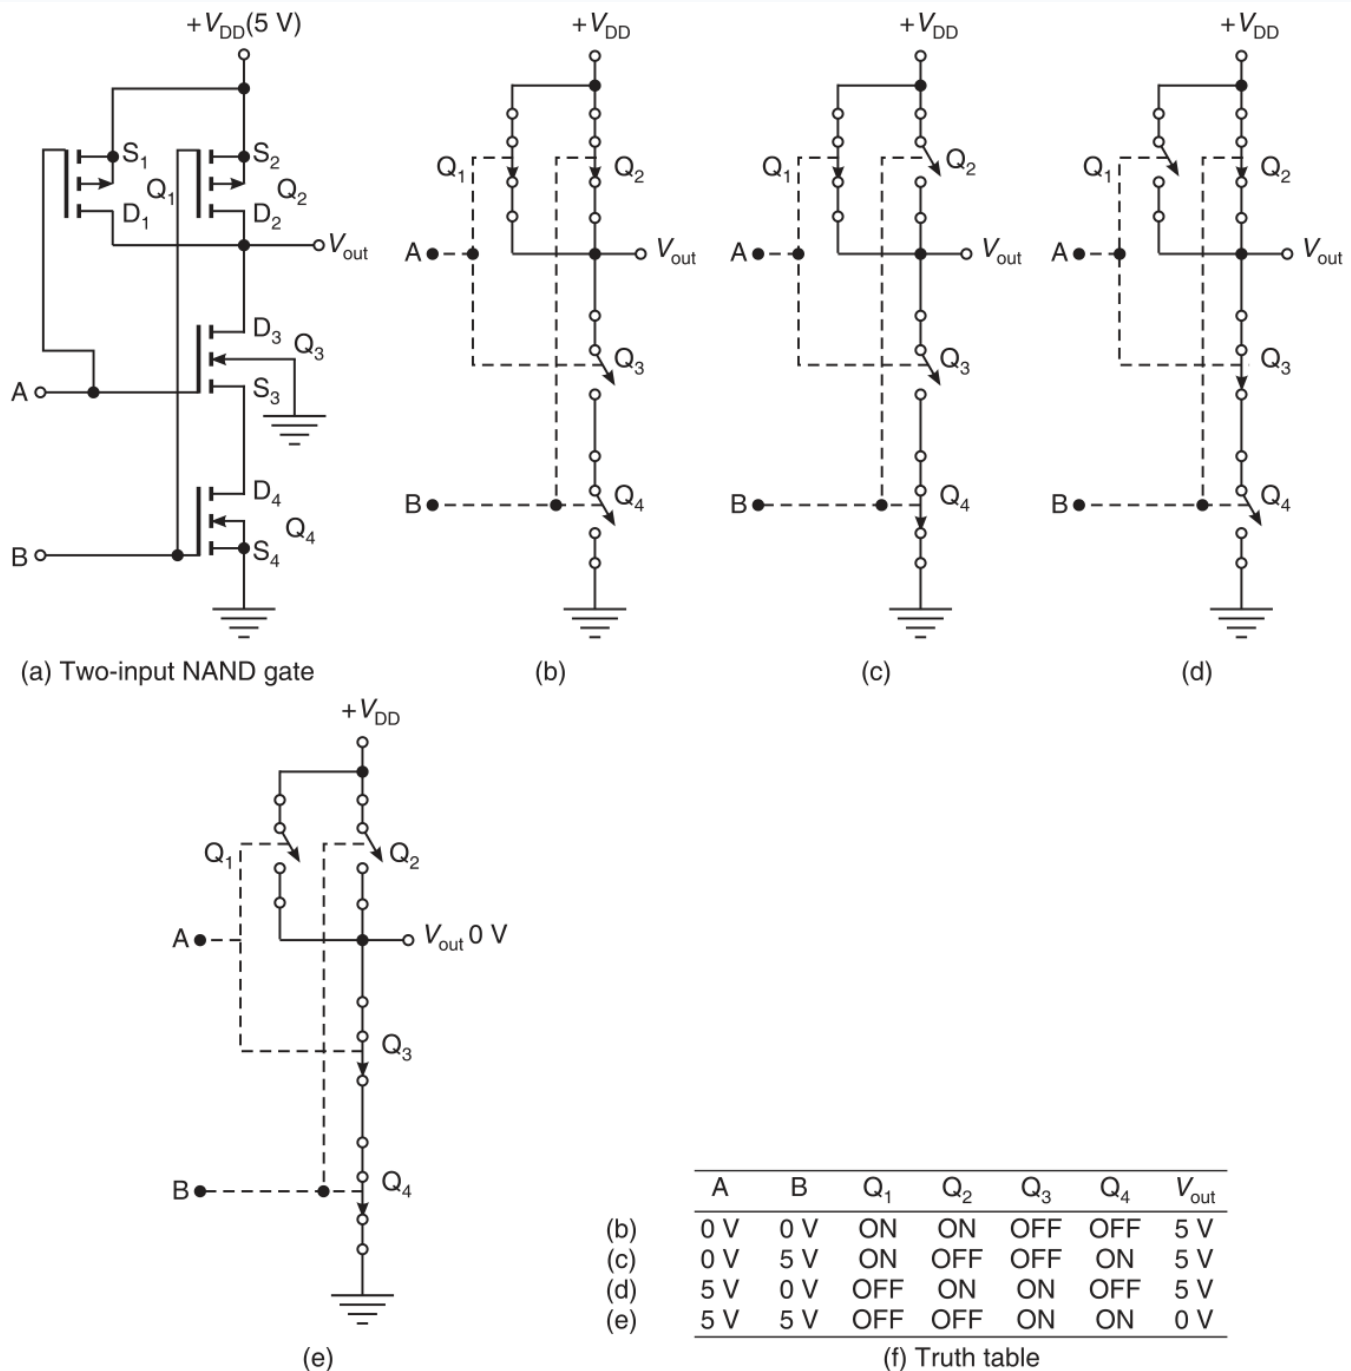

Figure 16.24 Circuit diagram and equivalent circuits for various inputs of the CMOS NAND gate.
2. The CMOS NAND Gate (*Kumar*, p. 922, Figure 16.24)